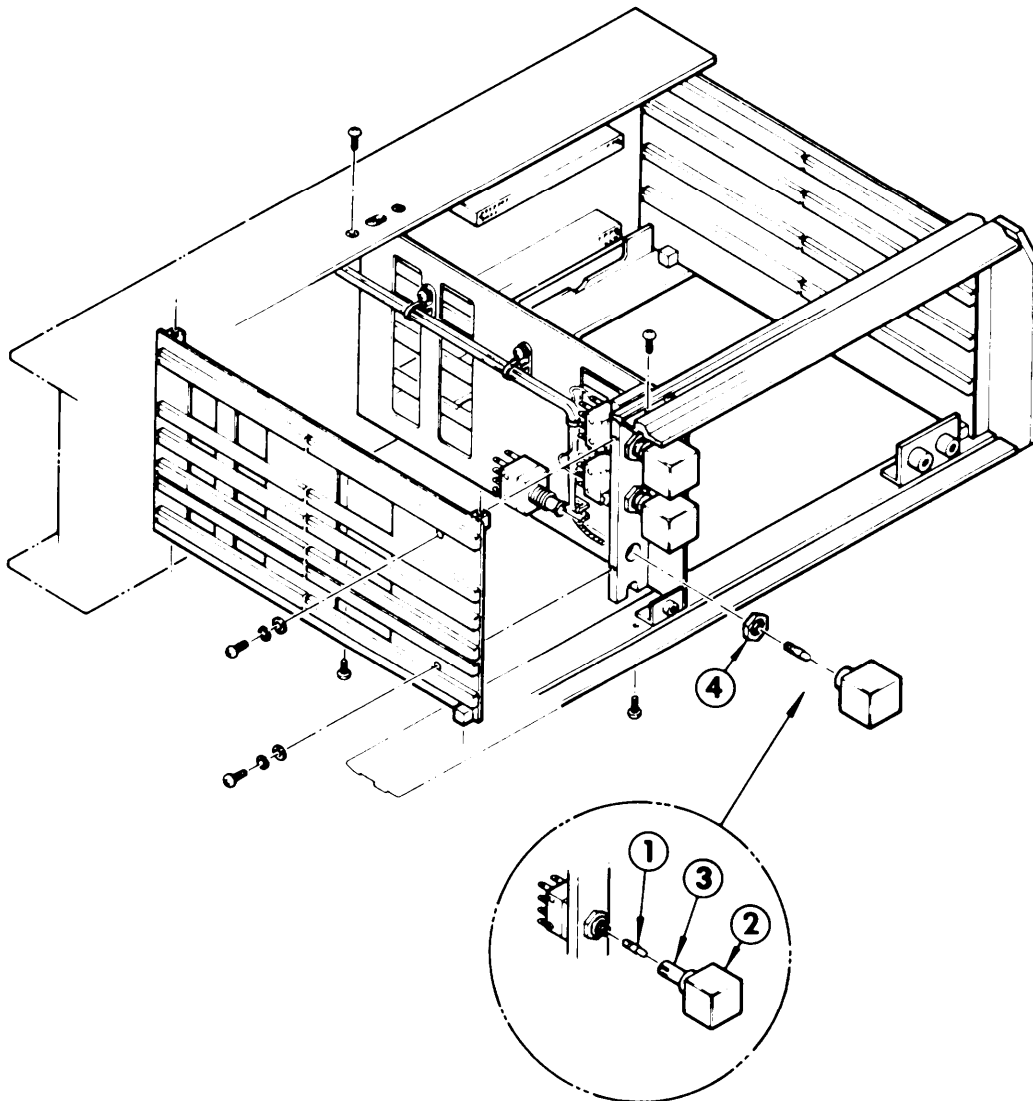

Figure 5-2. Power/STOP Switch Assembly
The TRANSPORT and SYSTEM power switches and the STOP switch indicators contain a +28 volt screw base lamp (1). (See Figure 5-2, Power/STOP Switch Assembly.)
2. Pull the indicator cover (2) straight out. The lamp shield (3) may be removed with the cover.
To replace the power/STOP switches, only the left-center card guide panel (12) is to be removed. See Figure 5-2, Power/STOP Switch Assembly.
6. Remove the left-center card guide panel (12) by removing 2 attaching screws located on the top and 2 attaching screws located on the bottom. Remove 2 attaching screws and washers on the side of the card guide panel. (See Figure 5-2, Power/STOP Switch Assembly, for attaching hardware location.)
10. Remove the large hex nut (4) on the front of the switch assembly. The defective switch assembly can now be removed from the rear of the attaching frame.
1. Insert the switch assembly from the back side of the mounting frame. (See Figure 5-2, Power/STOP Switch Assembly.)
2. Install the large hex nut (4) from the front side of the mounting frame.
3. Install the switch lamp cover (2) and shield (3). (See paragraph 5-14, Power and STOP Switch Lamp Replacement.)
5. Relate the card guide frame and attach with 2 top screws and 2 bottom screws. (See Figure 5-2, Power/STOP Switch Assembly.)